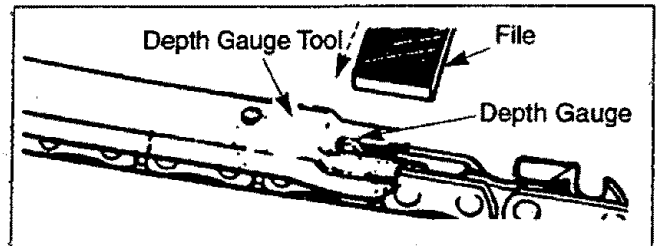

Figure 21
SHARPENING CHAIN (Fig. 21, 22, 23, 24, 25, 26 & 27)
- To check depth gauge, place gauge tool on cutter. If the depth gauge projects above the tool, then file it level to the top of the depth gauge tool. See Figure 21.